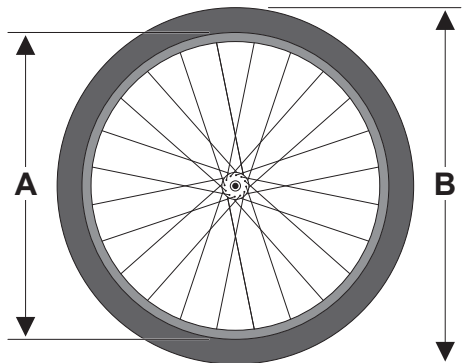
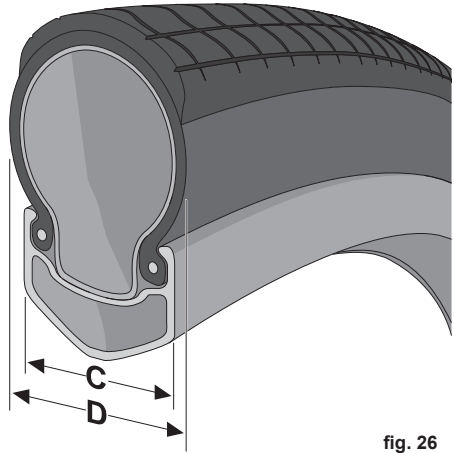

fig. 25
fig. 26
Wheel rims and tires come in a wide range of diameters (fig. 25) and widths (fig. 26). The nominal diameter of the rim (A) must match the nominal diameter of the tire (B), and the width of the rim (C) must be compatible with the width of the tire (D).